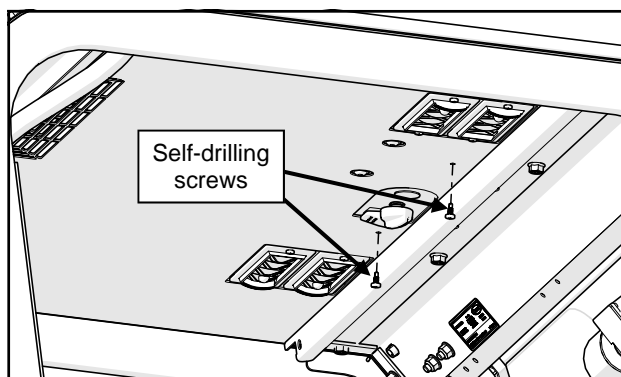

Fig. 2.21 (Secure A/C Unit to Roof Pan)
**2.21** Install a #10 self-drilling screw into each of the two small holes at the front of the roof pan, behind the cab windshield support and to either side of the switches. Figure 2.21